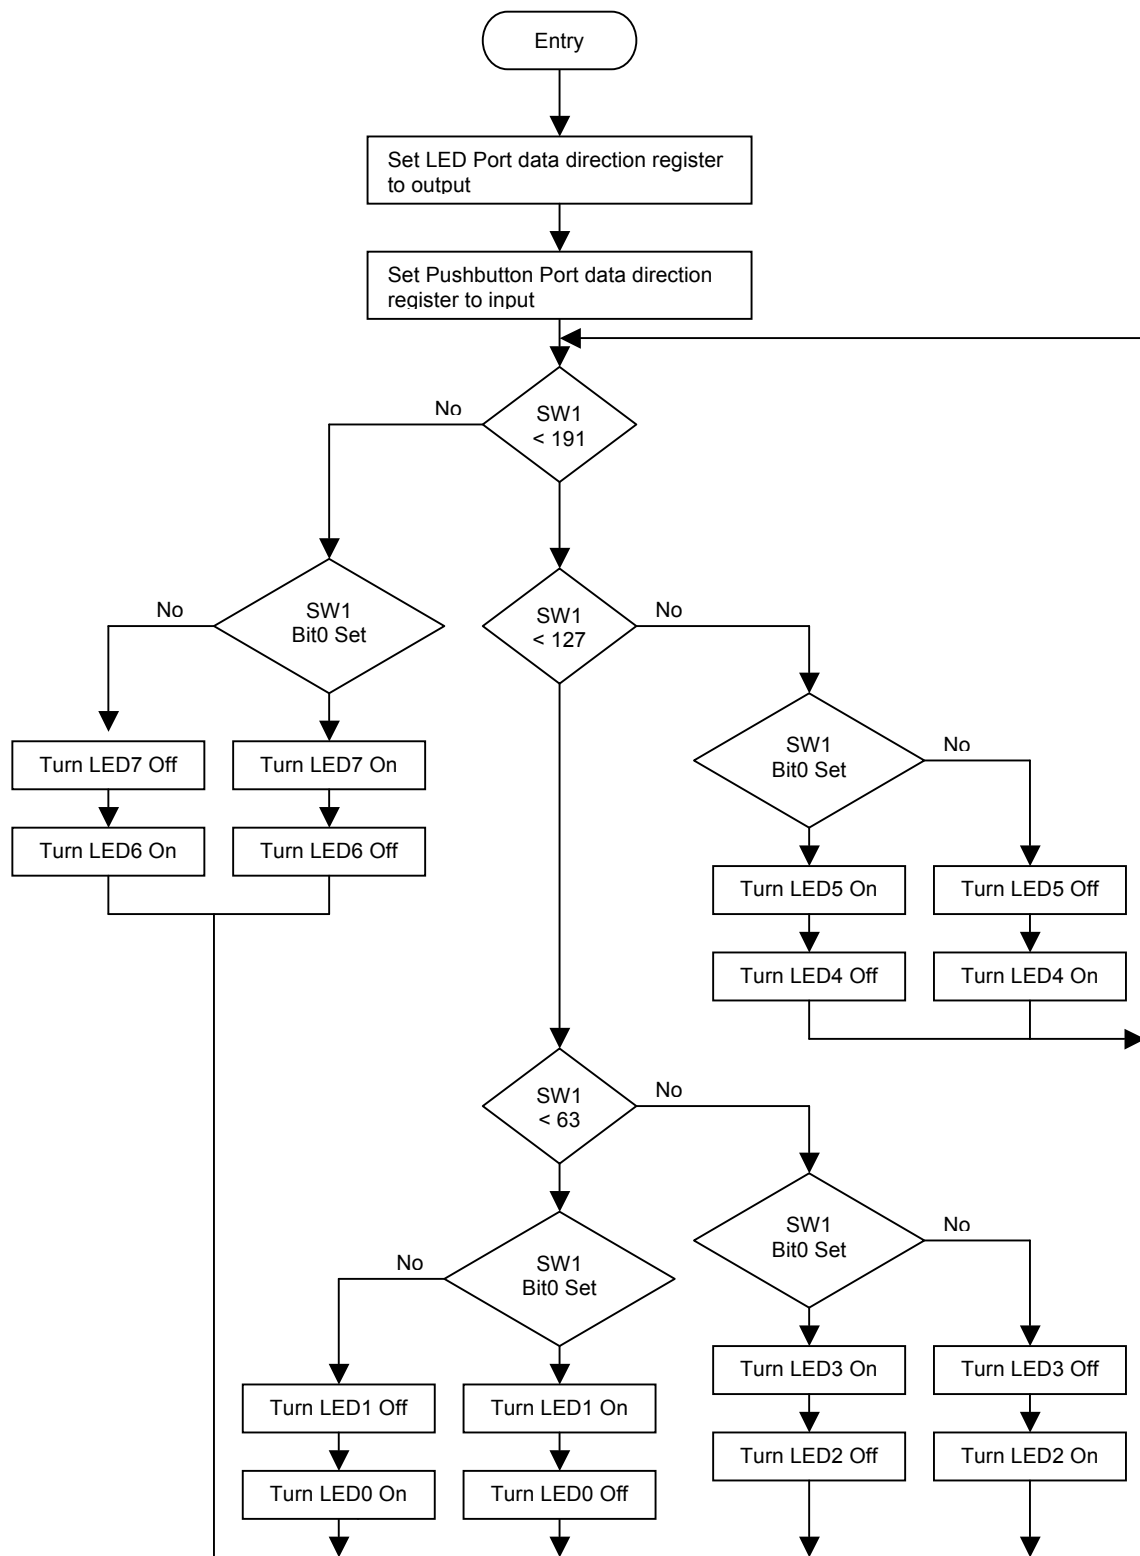

Figure 2. Decision Making
- Create a project written in C based on the flowchart shown in Figure 2 and again debugging your code on the Dragon12 using D-Bug12.